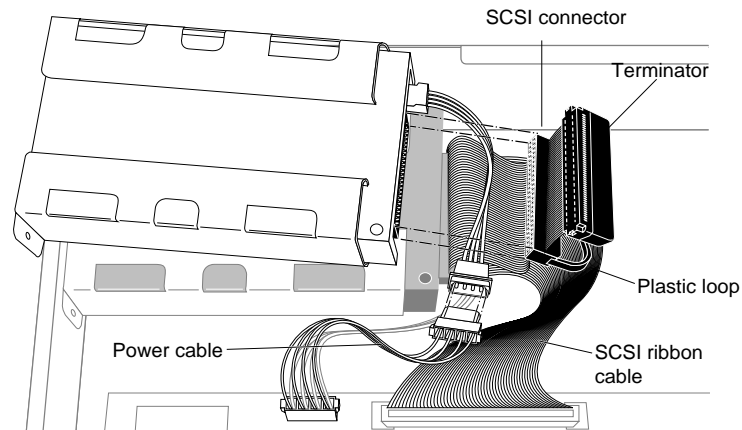

Figure 8-32 Disconnecting the Cables From the Floptical Disk Drive
- Disconnect the power cable connector from the drive, as shown in Figure 8-32.